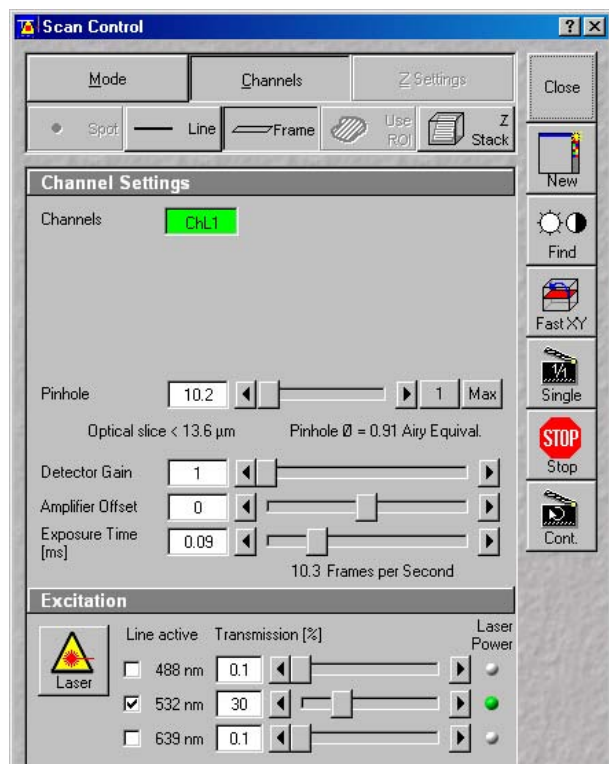

Fig. 4-308 Scan Control window (Channels)
- In the **Scan Control** window, click on the **Cont.** button (see Fig. 4-308).